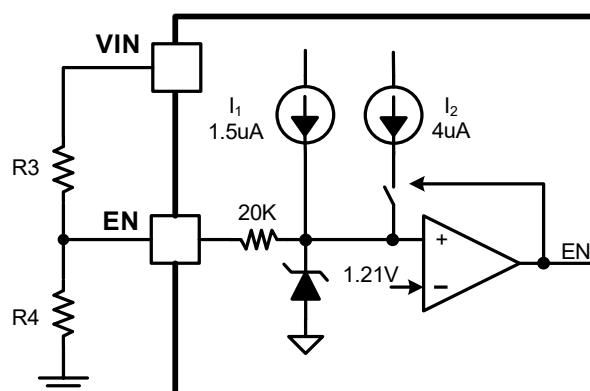

Figure 11. Adjustable VIN UVLO
off-chip resistor divider R3 and R4, shown in Figure 11. The resistor divider R3 and R4 are calculated by equation (1) and (2).